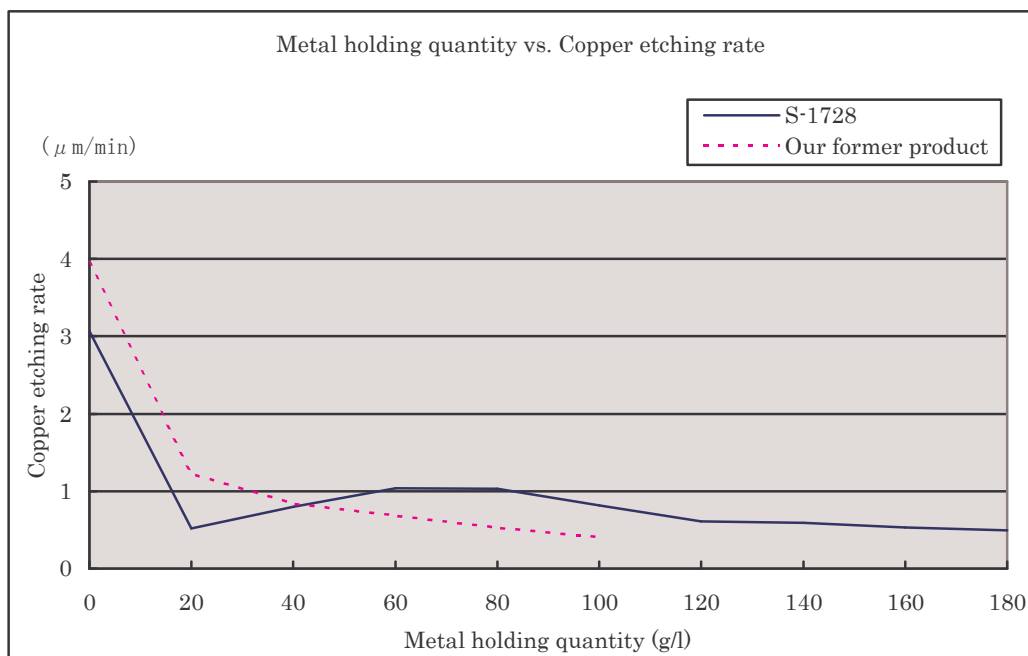

Fig. 4 : Measured by copper laminated board (copper foil thickness 18 μm).
3. During start-up with fresh solution the etching or dilution of copper into the bath should be avoided. Dissolve first about 20g/l Sn or Sn/Pb into the bath. This action will allow you to minimize etching of copper during working conditions. (see fig.4)